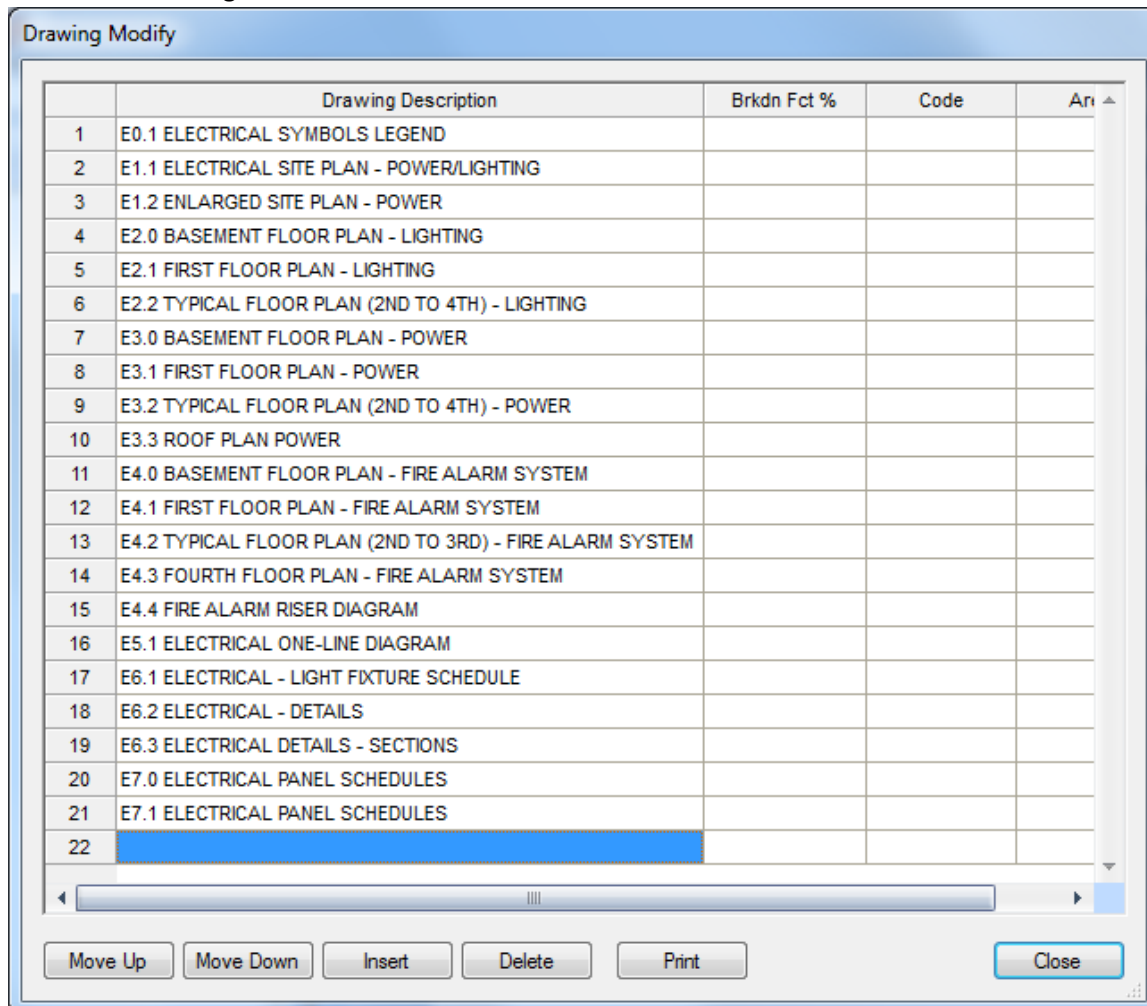

Figure 15
14. Press Enter to move to the next line. Continue adding the names of the Accubid Office Building plans to the list as shown in Figure 15. When finished click the Close button.